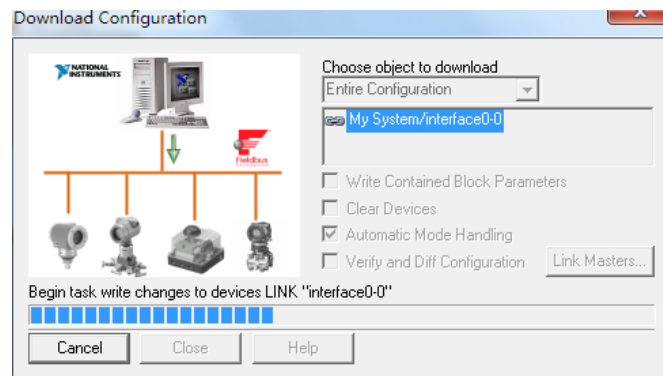

Figure 3.14 Configuration engineering download interface
(2) To download the configuration information, click the "Download Project" button on the NI software to download the configuration project. The download interface is shown in Figure 3.14 below.